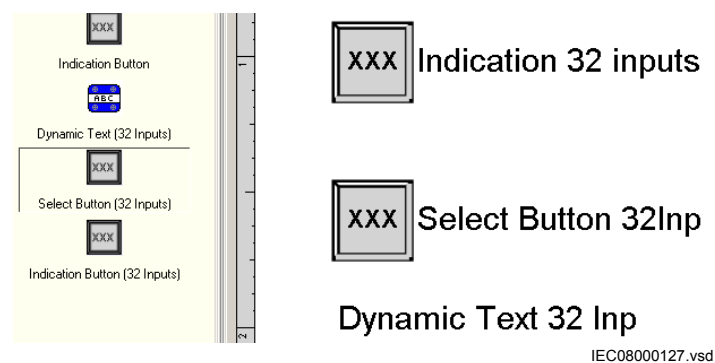

Figure 69: GDE: Dynamic Text symbols
- Select **Dynamic Text** and **Indication** to present the text for the actual value of the function block, see Figure 69.